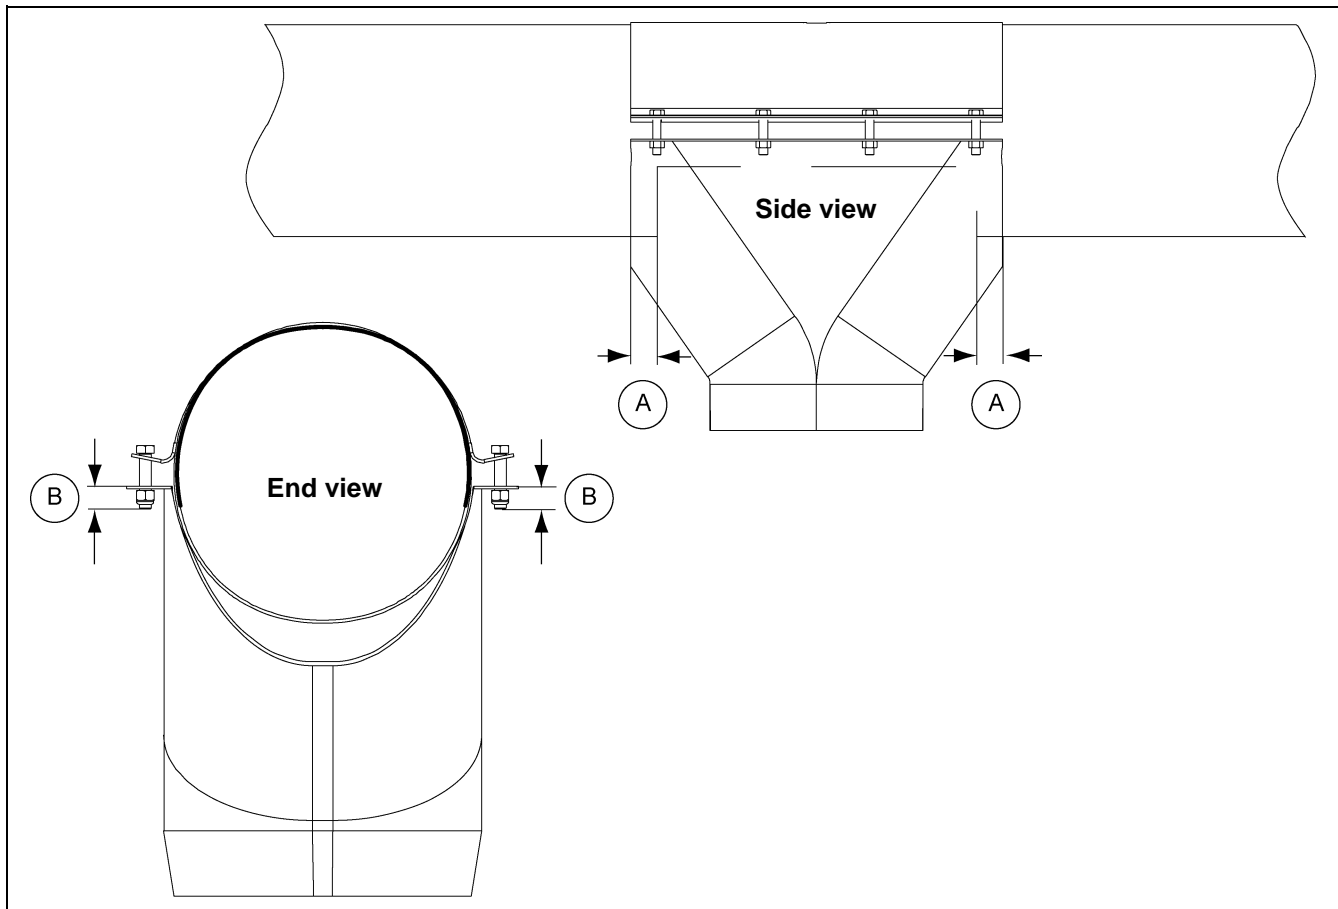

Figure 4AA
5. Carefully measure the outlet before cutting. Follow the recommended guidelines as shown in Figure 4AA. It is very important that the opening be large enough not to reduce capacity, but small enough so the outlet can be covered securely by the spout.